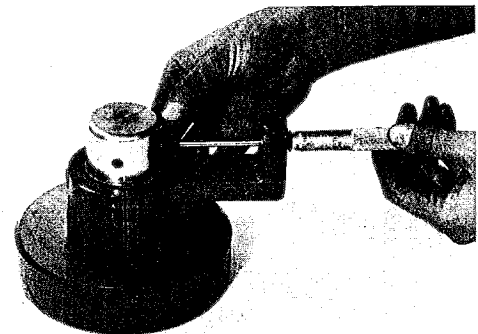

Fig 4 Checking Micrometer Reading
2. To check the micrometer reading, insert the ground surfaces of the round setting standard between the ground shaft and the micrometer spindle. The micrometer reading should be 3.000 inches. Compare readings from three different places around the chromed shaft. (See Fig 4)